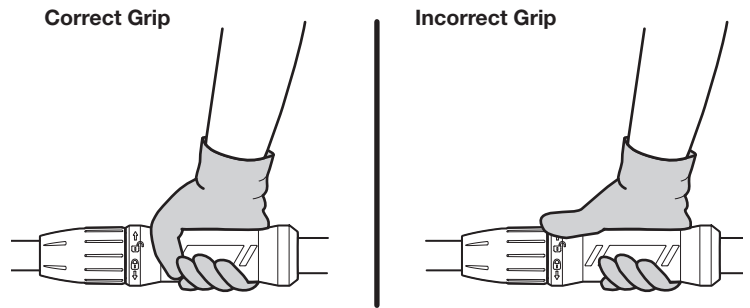

Fig. 12
- Firmly encircle the shaft grip and pole grip with the thumbs and fingers (Fig. 12). This will help reduce the chance of losing control of the unit if kickback occurs. Any grip with thumbs and fingers on the same side of the shaft grip or pole grip is dangerous (Fig. 12).